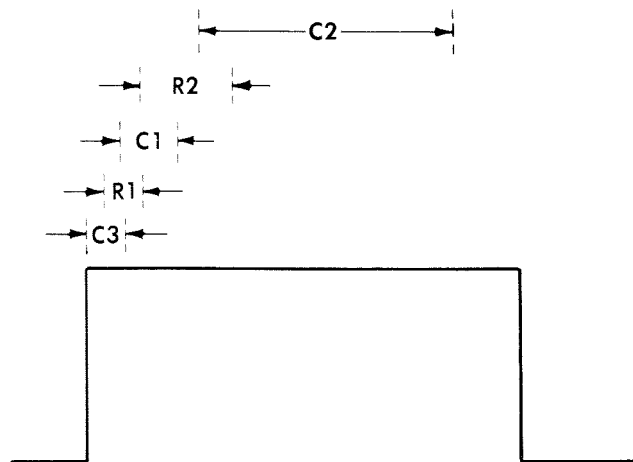

Fig. 2-1. Pulse area affected by each compensation adjustment.
The P6015 Compensating Box contains seven adjustable components. All except R5 (see schematic) vary the time constant of RC networks. The adjustable components and their effect on a 1 kHz square wave (see Fig. 2-1) are as follows:
Compensation can be checked by displaying the oscilloscope calibrator 40-volt output through the P6015 Probe. Adjust the oscilloscope controls (0.02 volts/div, sweep rate 0.5 ms/div) to display a waveform similar to Fig. 2-1. If the waveform has aberrations, compensation is necessary. If the aberrations cannot be corrected by making minor adjustments, proceed as follows:
3. Set the sweep rates for $50 \mu\text{s}/\text{div}$ and display the leading corner of the square wave. Adjust R1, C3, and C1 for the sharpest leading corner without overshoot (see Fig. 2-1). Each may have to be adjusted several times for the sharpest corner. Maintain 2 divisions of deflection at the leading edge. The R1-C3 combination affects the very corner and C1 affects the area immediately following with some overlap.